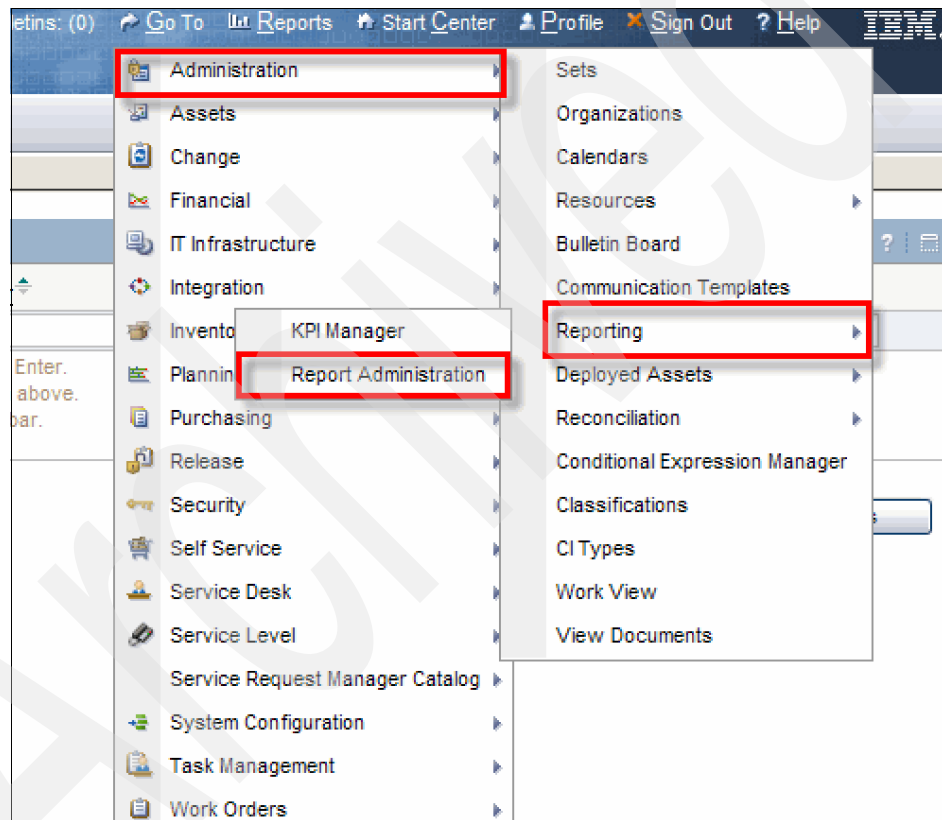

Figure 6-1 Report menu
1. Start the Report Administration application from the Start Center by selecting **Go To → Report Administration → Reporting → Report Administration**, as shown in Figure 6-1.